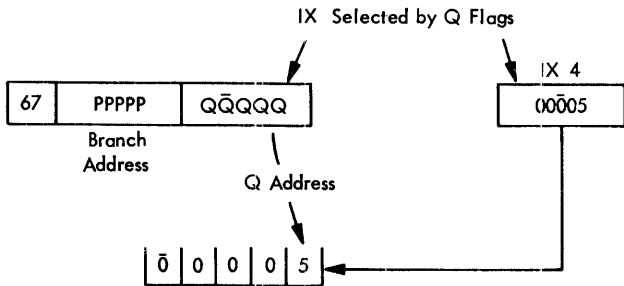

Figure 63. Branch and Store Index Register
*Description.* This instruction stores the five digits of the selected index register at the Q address (Figure 63). If the contents of the index register are negative, a flag is stored with the units position. A flag is automatically placed in the leftmost position of the stored data. No other flags are transmitted.